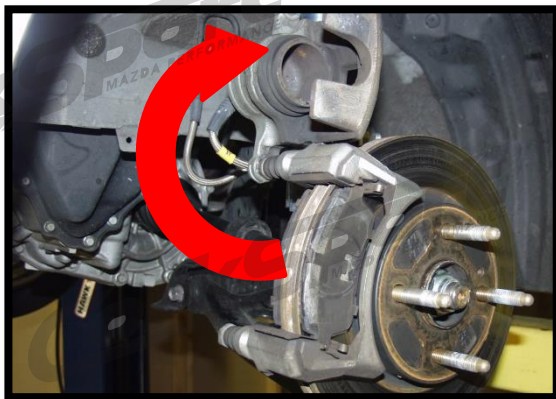

Figure 1d
- e) Rotate the caliper upwards, exposing the brake pads (as shown in Figure 1d).
- e) Rotate the caliper upwards, exposing the brake pads (shown in Figure 1d).